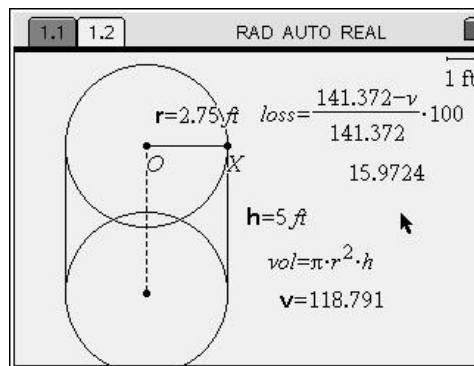

Figure 24
24. Next calculate the formula by pressing MENU 1 7 for Menu, 1:Actions, 7:Calculate. Move the cursor to the formula until it becomes a hand with a pointing finger. Press ENTER . When it says, “select v...”, move the cursor to the measurement for v until it becomes a pointing hand again. Press ENTER . Move the calculation to an appropriate place on the screen and press ENTER one last time. Press ESC to put the calculation tool away. (Figure 24)